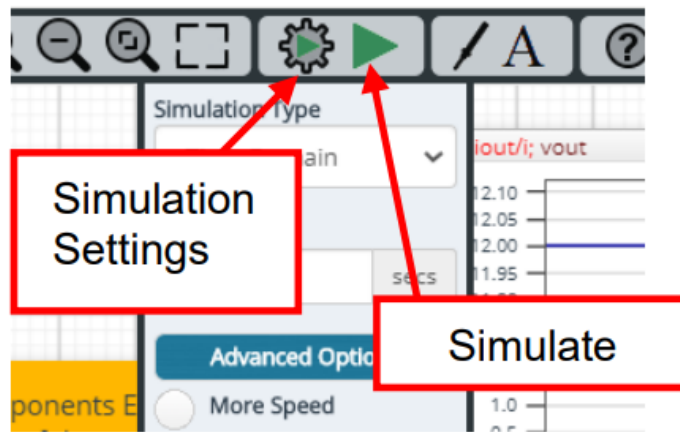

Figure 2. Simulation Settings and execution
The simulation settings can be configured from the 'Simulation Settings' as shown in Figure 2.
- The simulation settings, such as parameter sweep or convergence options, are configurable from the 'Simulation Settings' shown in Figure 2, and Table 1 shows the default setup of the simulation.